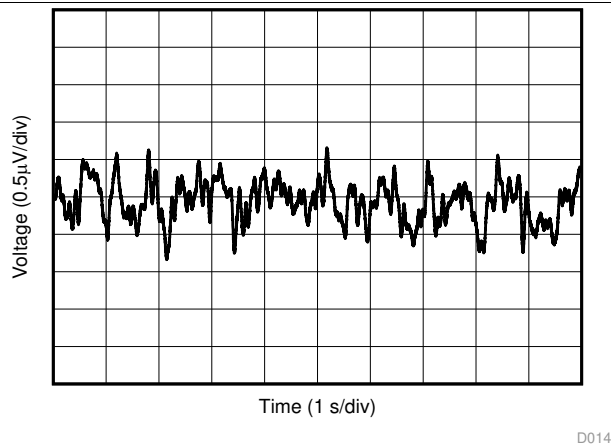

Figure 15. 0.1-Hz to 10-Hz Flicker Noise
0.1-Hz to 10-Hz Flicker Noise	Figure 15